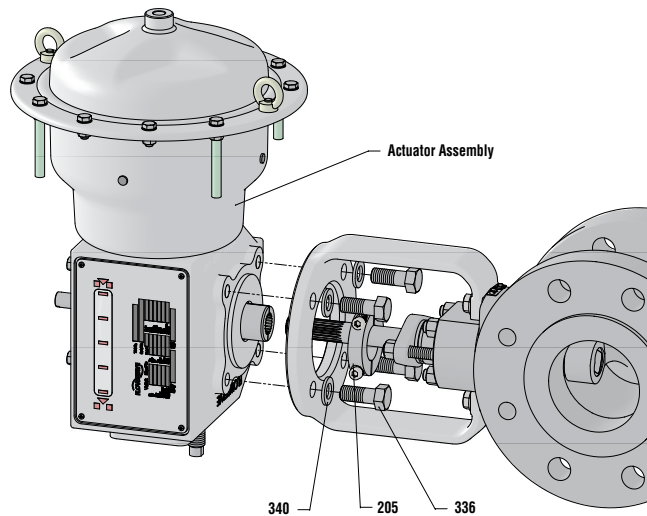

Figure 9: Remove the actuator
3. Turn the socket screws of the two piece clamp counter clockwise to loosen (See Figure 9: Remove the actuator).